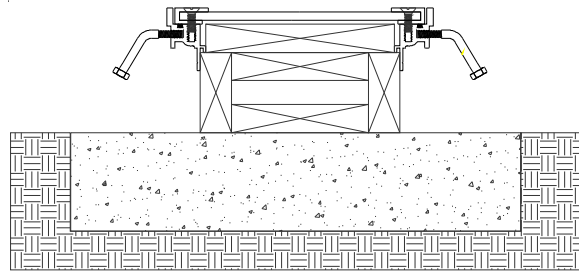

Figure 3
STEP 5. Attach the trench cover to the trench forms. (see Figure 3). Trench cover assemblies attached to trench forms may be wired or otherwise fastened to the forms.